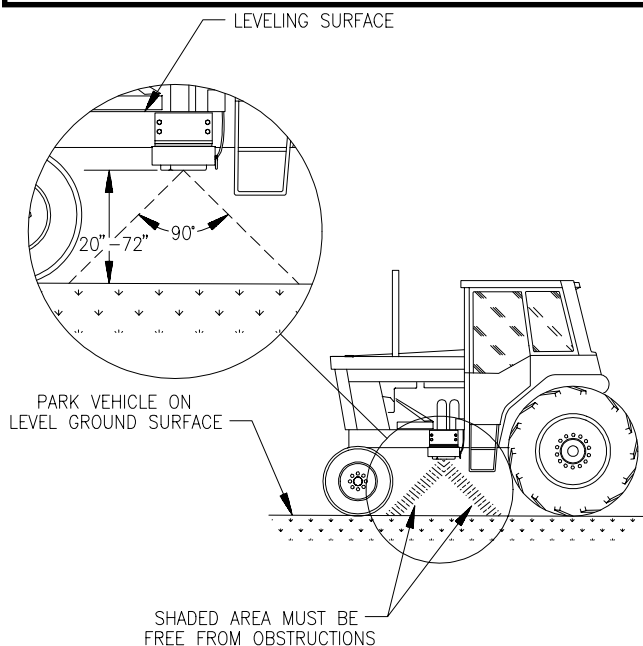

FIGURE 1
- a) The line of sight from the lens to the ground must not be obstructed by structures or tires. Obstructions must not come closer than 20 inches to the bottom of the radar. See **Figures 1 and 2**.